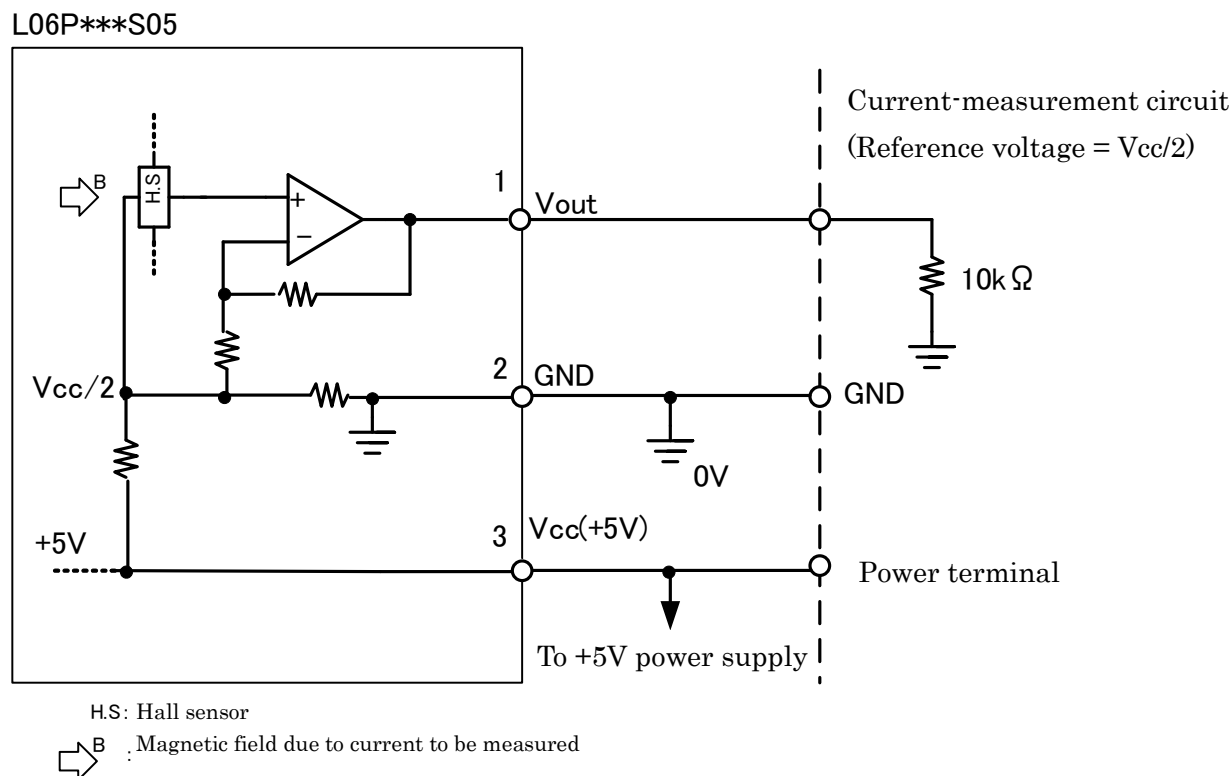

Fig. 2: Standard circuit
□ Description of Fig. 2
This current sensor converts a measured current into a voltage. The output voltage V_{out} (1) in Fig. 2 is based on V_{ref} , which is half the power-supply voltage V_{cc} , i.e., $V_{ref} = \frac{V_{cc}}{2}$. When the current to be measured is 0, V_{out} (1) = $V_{cc}/2$. When the current to be measured is in the plus direction, V_{out} (1) becomes $(V_{cc}/2) + (\text{voltage converted from the measured current})$. When the current to be measured is in the minus direction, V_{out} (1) becomes $(V_{cc}/2) - (\text{voltage converted from the measured current})$.
10 k Ω in Fig. 2 is the equivalent resistance of the receiving circuit of the current sensor output Vout (1). The load resistance between the Vout terminal (1) and the GND potential (0V) is the standard 10 k Ω .